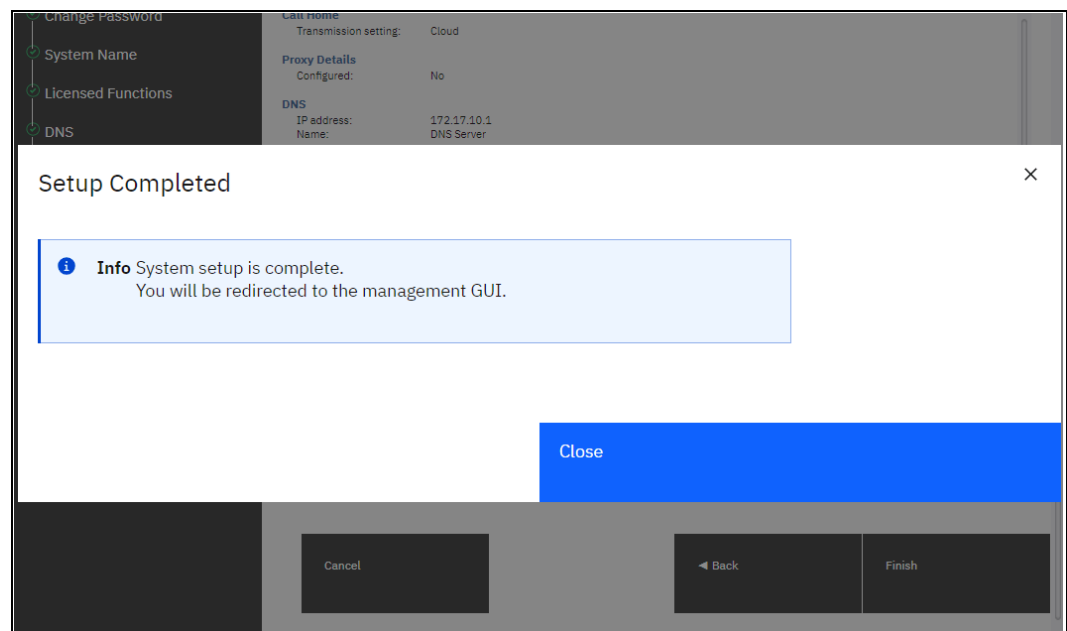

Figure 2-40 Setup completed
28. After Setup is completed you will be guided to the Management GUI. See Figure 2-40 on page 50.